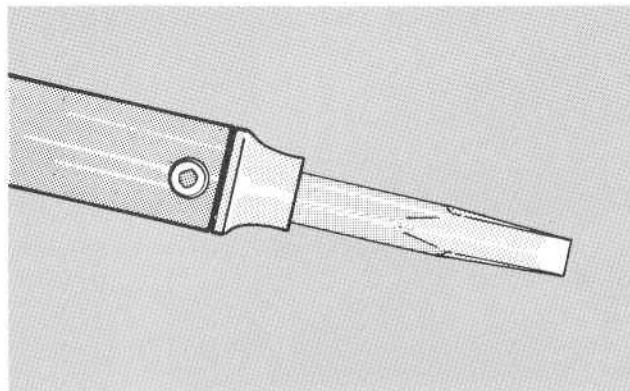

Fig. 4-1. Soldering iron tip properly shaped and tinned.
Because of the shape of the terminals on the ceramic strips it is advisable to use a wedge-shaped tip on your soldering iron when you are installing or removing parts from the strips. Fig. 4-1 will show you the correct shape for the tip of the soldering iron. Be sure to file smooth all surfaces of the iron which will be tinned. This prevents solder from building up on rough spots where it will quickly oxidize.
2. Prepare the tip of the iron as shown in Fig. 4-1.